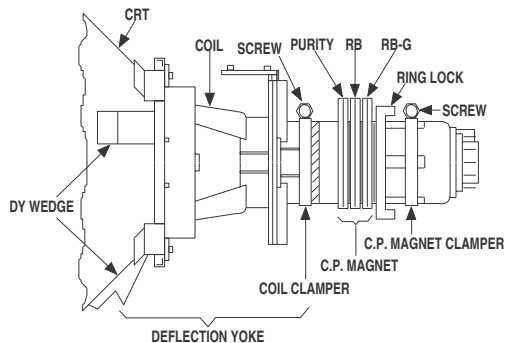

Fig. 9
5. Loosen the screw on the Deflection Yoke Clamper and pull the Deflection Yoke back away from the screen. (See Fig. 9.)